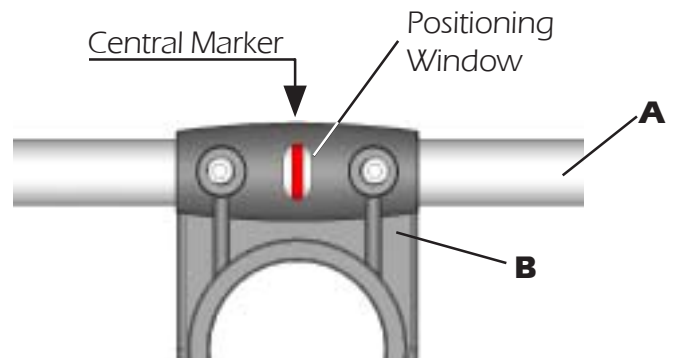

Fig.3
2) Place the reference marker of the aluminium element **A** in the centre of the plastic support **B** (see **fig. 3**) and lock the screws **C** by the supplied key **D** (**fig. 4**). When the screws touch the aluminium tubes you can finally lock them turning for 1.5 turns.